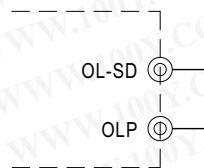

Fig. 5.2 Insert the CN3
- (2) Insert the shorting connector on CN3 that is shown in Fig 5.2, the O.L.P. mode will be "constant current limiting with delay shutdown after 5 seconds, re-power on to recover".